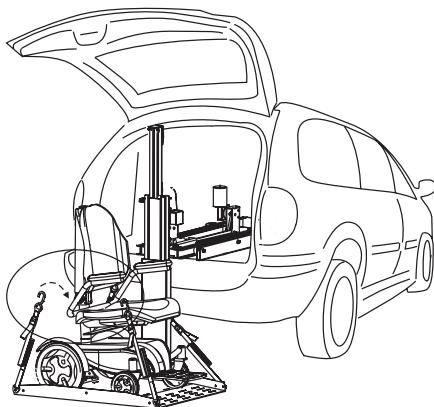

Figure 3-3
1. Each corner of the AL600 platform has a restraint attached, with a hook on the end. Place each hook in either the anchor plate slot or in each U-bolt, or tie-down loops attached to the mobility device. *See Figure 3-3.*